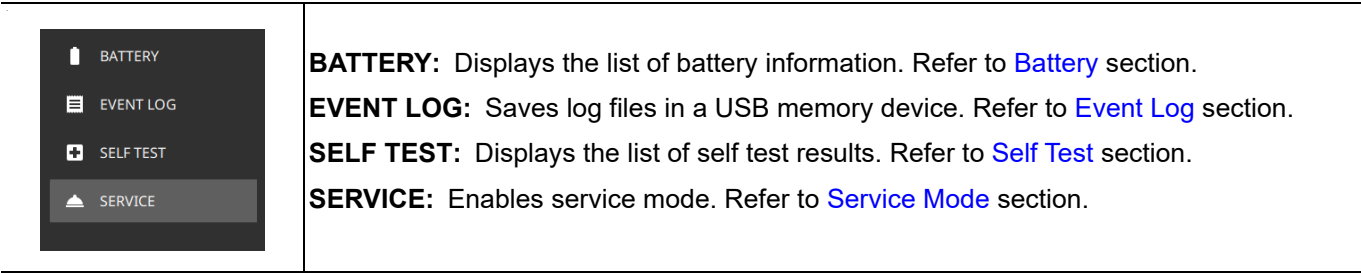

Figure 2-51. Diagnostics Menu
2. Select DIAGNOSTICS menu to access the diagnostics options of the instrument. See Figure 2-51.